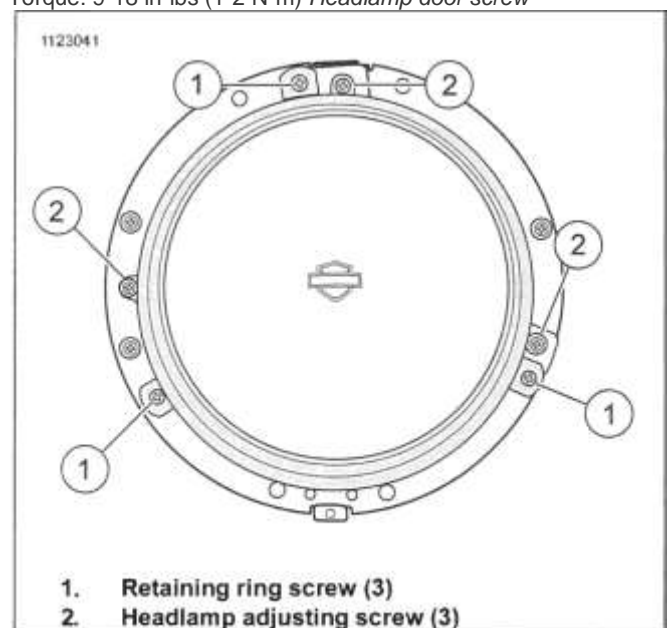

Figure 8-42. Headlamp Retaining Ring
3. See Figure 8-42. Remove screws (1) securing retaining ring.
2. See Figure 8-42. Secure headlamp assembly with retaining ring and screws (1). Tighten.